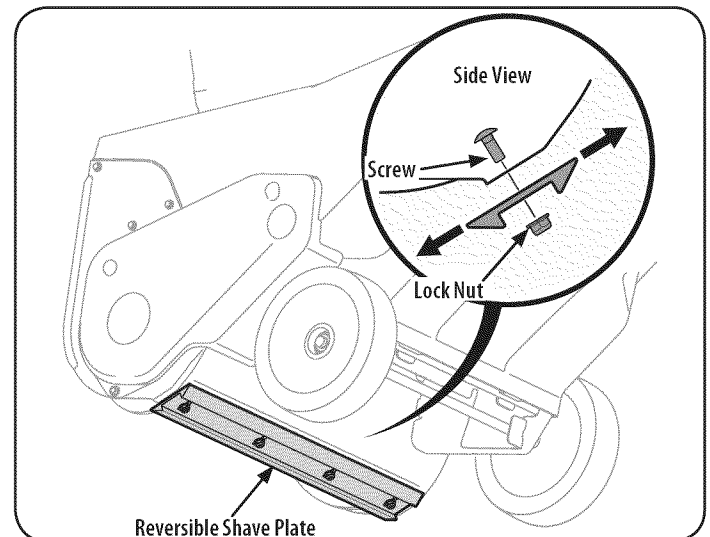

Figure 20
3. Loosen the four flange lock nuts and carriage screws which secure the shave plate to the housing. See Figure 20. Move the shave plate to the appropriate position and retighten the nuts and screws securely.
3. Remove the four carriage bolts and flange lock nuts which attach it to the snow thrower housing. Refer to Figure 20 on page 16.